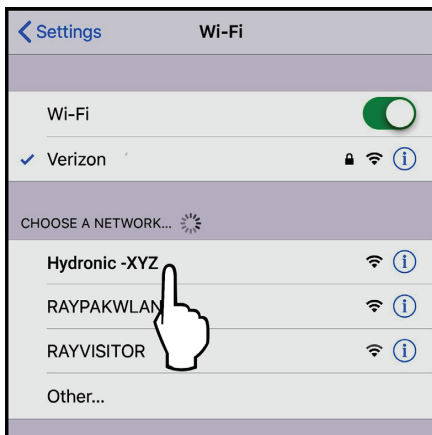

Figure 93. Select the HOTSPOT Identifier
- Select the HOTSPOT identifier that matches the unit's Touchscreen as shown in **Figure 93**.